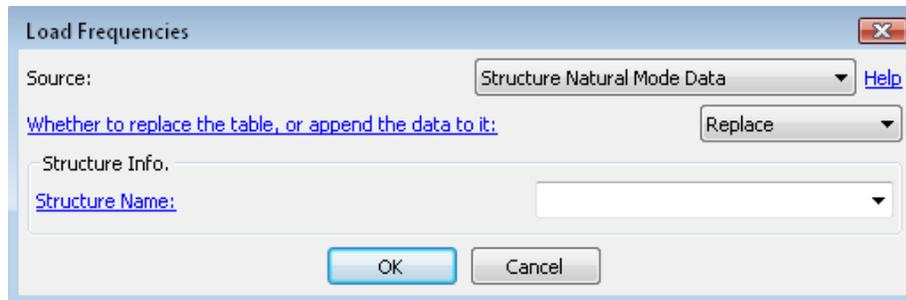

**Figure 7.21** Load frequencies from the structure frequency response data.
**7.2.2.5. Structure Frequency Response Data** Analysis frequencies could be extracted from a structure's frequency response data using this option (Figure 7.21). Verify whether the selected structure (defined in **Structure Name**) has frequency response data from: **Model** → **Structures** → <Structure Mesh Name> → **Freq Response Data**. See Section 5.1.2 on how to load frequency response data of a structure to the *Coustyx* model. Press OK to load frequencies. A new dialog box with the list of available frequencies from the frequency response data appear. See Figure 5.6. Select the frequencies of interest by checking/unchecking a frequency or by using any of the buttons: **Select All**, **Unselect All**, or **Select by Frequency Range...**. If there is no frequency response data available for the selected structure, an alert window will pop up with the same message.